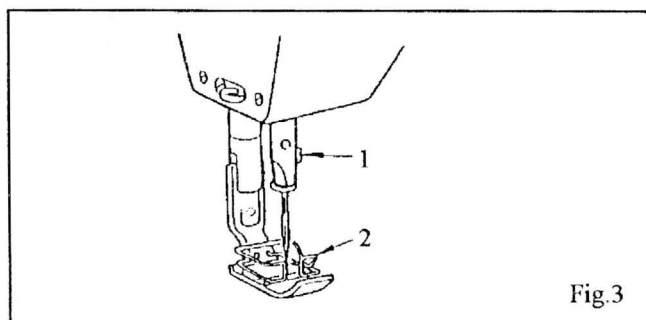

Fig.3
## INSERTING THE NEEDLE (See Fig.3)
Do not operate without finger guard (2)! (See Fig. 3)
Set the needle bar at its highest point. Loosen needle set screw (1). (see Fig. 3) Insert the needle in the needle bar and push it up as far as it will go. Make sure its long groove faces toward the front. Tighten needle set screw (1) securely.